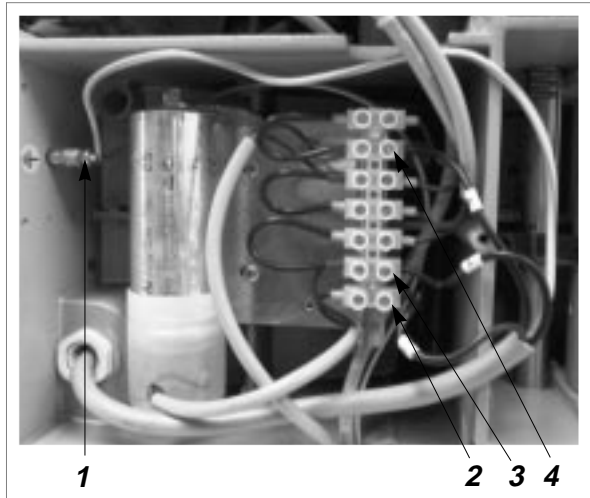

Fig. 34
- 3) Disconnect the 4 motor wires (1, 2, 3, 4) from their connections (fig.34).
- 20) Connect the 4 motor wires (1, 2, 3, 4) (fig.34).